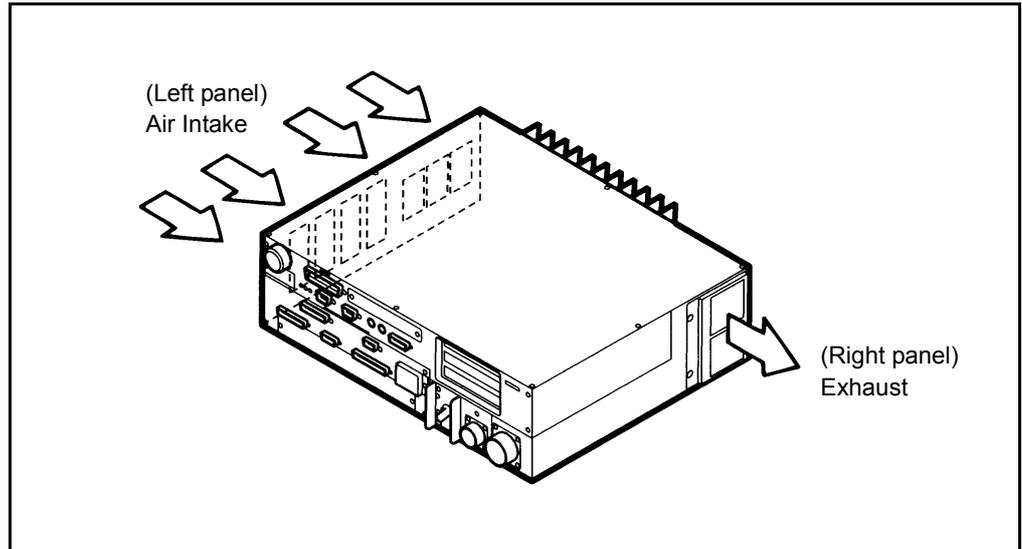

Figure 6-1 Normal Operation of Cooling Fan
**Note 2** The normal operation of the cooling fan is as shown in Figure 6-1.